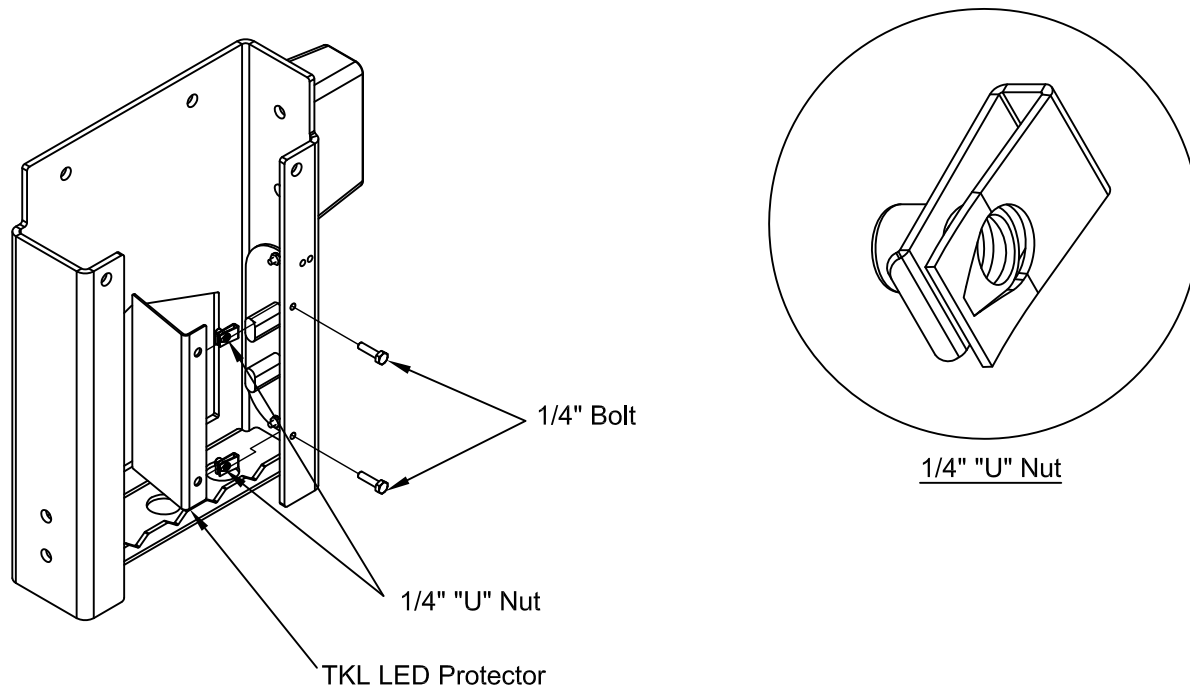

Figure 8
9. **Place** "U" nuts over bent flange on step (Figure 8).
9. **Bolt** the LED Protector plate on the same holes where the cover plate was originally installed with the provided two (2) 1/4"x1" bolts and two (2) 1/4" "U" nuts (Figure 8).